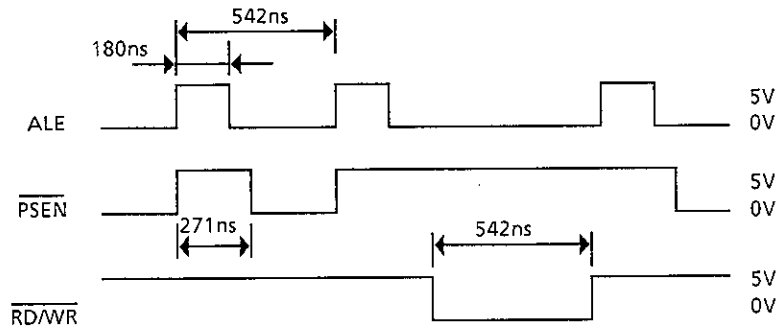

Figure E-3-3
• Yes Are ALE, $\overline{\text{PSED}}$, $\overline{\text{RD}}$, $\overline{\text{WR}}$, and BUS signals of Q3 as shown in Figure E-3-3?